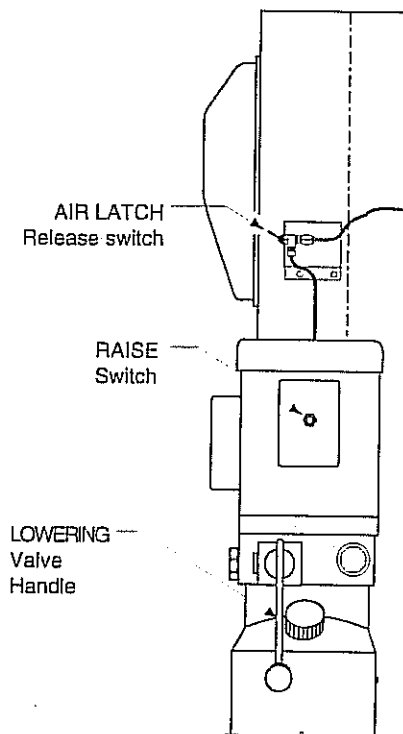

Fig. 1
2. Spot vehicle over lift with left front wheel in proper spotting dish position, see "positioning Vehicle" Fig. 1.